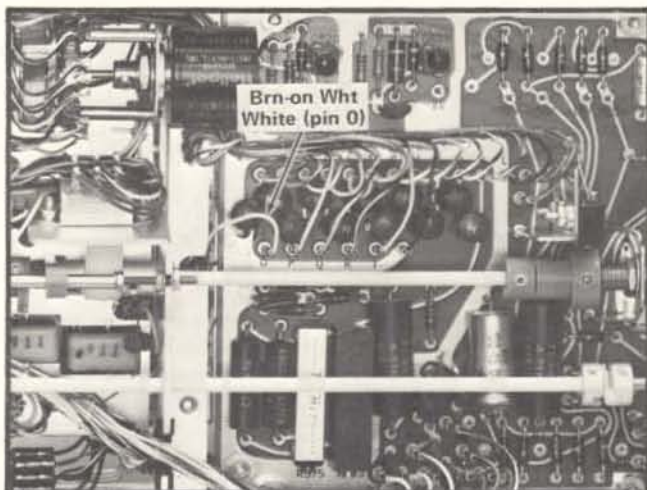

Fig. 5-9. Partial view of Output board showing the Vc input wire and the Vc output pin connector location.
e. Disconnect the Type 7A13 brown-on-white wire from pin connector "0" located on the Output board (see Fig. 5-9). This wire disconnects the Vc supply located on the Output board from the Vc input circuit on the Attenuator board but does not disconnect the Vc supply from the Vc OUT 0-10 V jack.